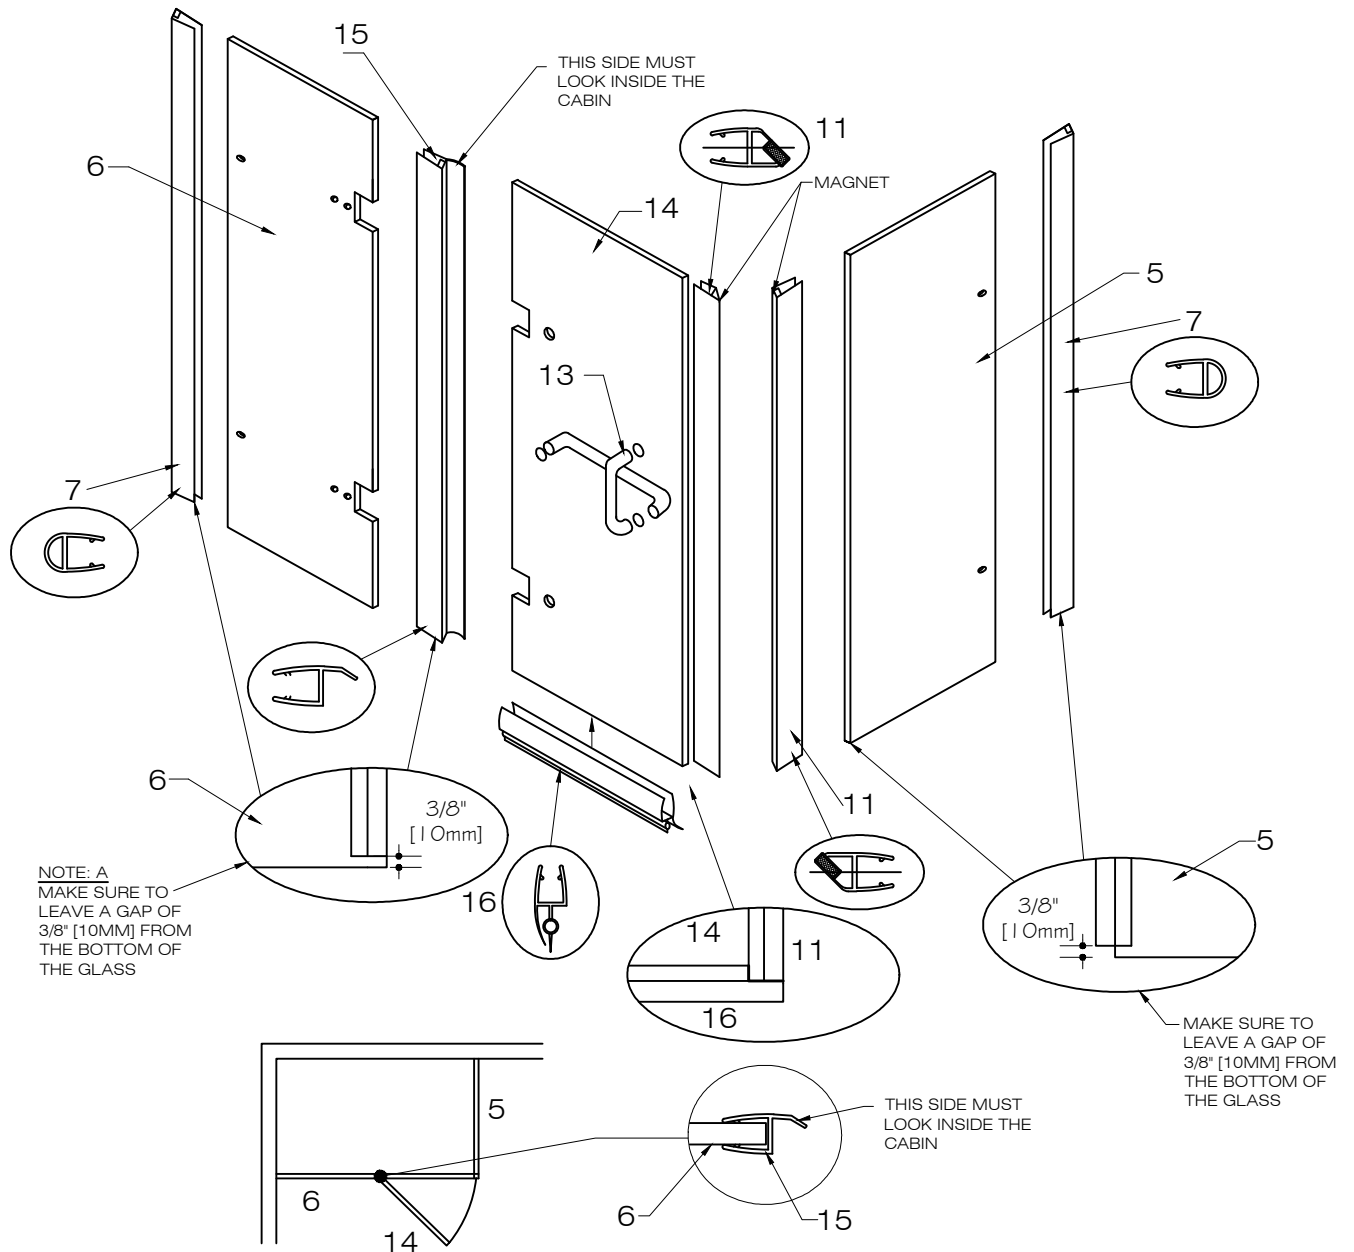

FIG.4 SEAL STRIP INSTALLATION DIAGRAM
2. [SEE FIG.4]
3. Install the seal strip (#7) to the wall side of the front glass panel (#6). [SEE FIG.4 on page 7]
2. Place magnetic seal strip (#11) to the door panel (#14) [SEE FIG.4 on page 7]. The magnetic side should be facing the inside and the clear side be facing the outside. Make sure the seal is level with the bottom of the panel. Do not install the handle first, this is dangerous and may cause the glass to break. Install the top hinge first for safety and ease of install.